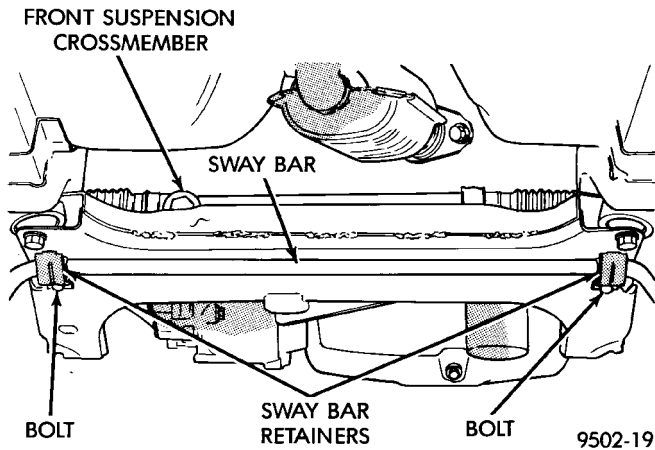

Fig. 34 Stabilizer Bar To Crossmember Retainers
(4) Loosen but do not remove bolts attaching stabilizer bar retainers to front suspension crossmember (Fig. 34). Then rotate stabilizer bar and attaching links away from lower control arms
(8) Torque the 2 stabilizer bar bushing retainer, to crossmember attaching bolts (Fig. 34) to 28 N·m (21 ft. lbs.).